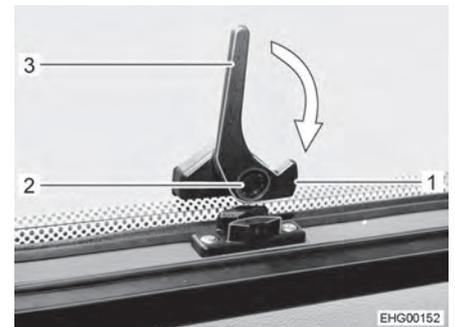

Fig. 42 Catch lever, at the bottom ("open" position)
- Press and hold the safety knob (Fig. 42,2) on the bottom catch lever (Fig. 42,3).
- Turn the bottom catch lever (Fig. 42,3) a quarter turn towards the window frame until the locking catch (Fig. 42,1) engages.